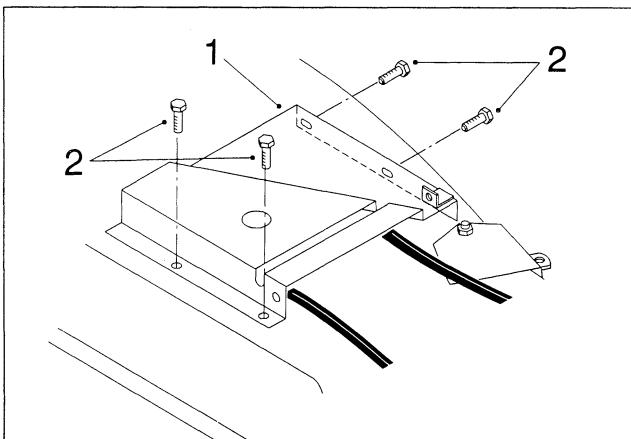

Figure 8
2. Mount the **mower** belt cover (Fig. 8) loosely on the outside of the mower belt-cover bracket using four 1/4" x 1/2" thread-forming hex-head flange screws. ***Do not tighten the screws*** because an adjustment is made in the next step.